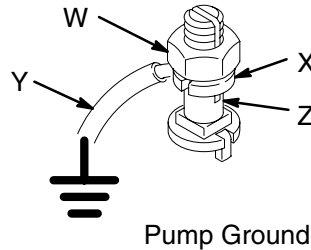

Fig. 2
1. **Ram Pumps:** check ground wire and clamp. See Fig. 2. To install, loosen grounding lug locknut (W) and washer (X). Insert one end of 1.5 mm2 (12 ga) minimum ground wire (Y) into slot in lug (Z) and tighten locknut securely. Connect other end of wire to true earth ground.